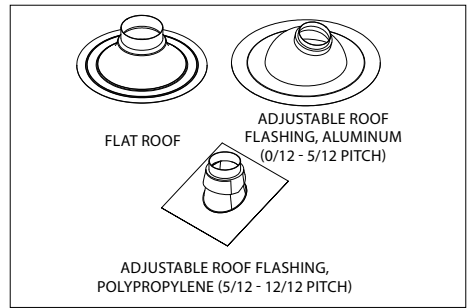

Figure 14
1. Choose the appropriate Flashing in accordance with your roof. For pitched roofs, an Adjustable Roof Flashing is available in either aluminum or polypropylene. For flat roofs an aluminum Flat Roof Flashing is available. (**Figure 14**).